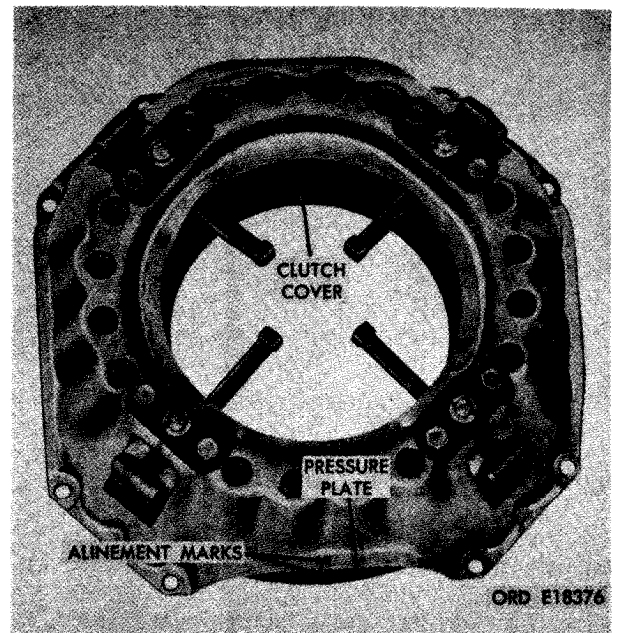
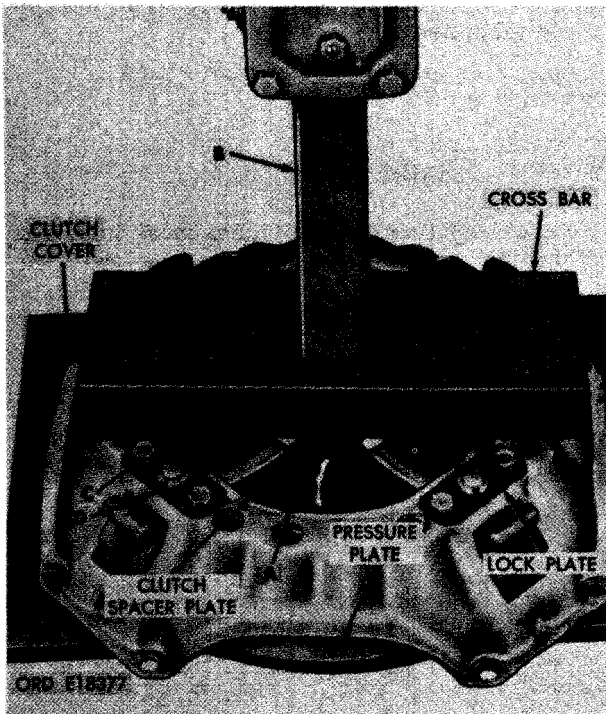

FIGURE 449. ALINEMENT MARKS SCRIBED ON CLUTCH COVER AND PRESSURE PLATE.
FIGURE 450. REMOVING LOCK PLATES USING CLUTCH SPACER PLATE.
b. Scribe Alinement Marks. Refer to figure 449 and scribe alinement marks to aid in assembly.
c. Remove Lock Plates. Figure 450. (A) place clutch on clutch spacer plate (fig. 34) and place in bed of arbor press. (B) Press clutch down using a suitable bar across clutch cover as shown with the cross bar clearing all lock plate cap screws. Press down until springs are depressed enough to relieve the spring tension against the lock plates. (C) Remove eight 5/16 x 1/2 self-tapping cap screws securing lock plates to clutch cover. (D) Remove four lock plates.
d. Install Clutch Cover. Refer to figures 450 and 451 and reverse the sequence of illustrations and instructions to assemble the clutch cover and pressure plate assembly. Aline scribe marks on clutch cover and pressure plate (fig. 449) before installing release lever adjusting nuts.
Note. Do not install lock plates (fig. 450) and Cap screws until release lever height has been adjusted.
f. Install Lock Plates. After correct release lever height has been established, remove the eight 3/8 x 15/16 cap screws and 3/8-inch lock washers and remove clutch from the flywheel assembly. Install four lock plates (fig. 450) and secure with eight 5/16 x 1/2 self-tapping cap screws. Tighten screws to 20 pound-feet torque.